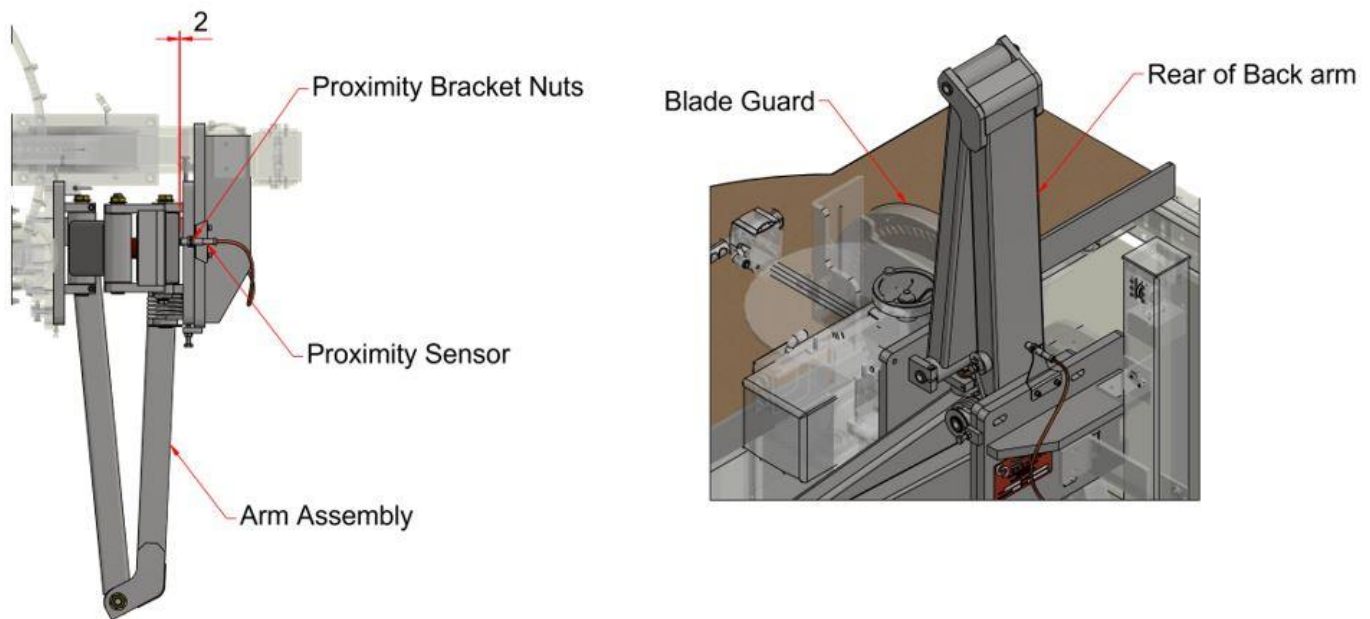

Figure 24, Arm Assembly proximity sensor configuration
- Ensure that the proximity sensor is in the middle of the back arm as shown in Figure 24.